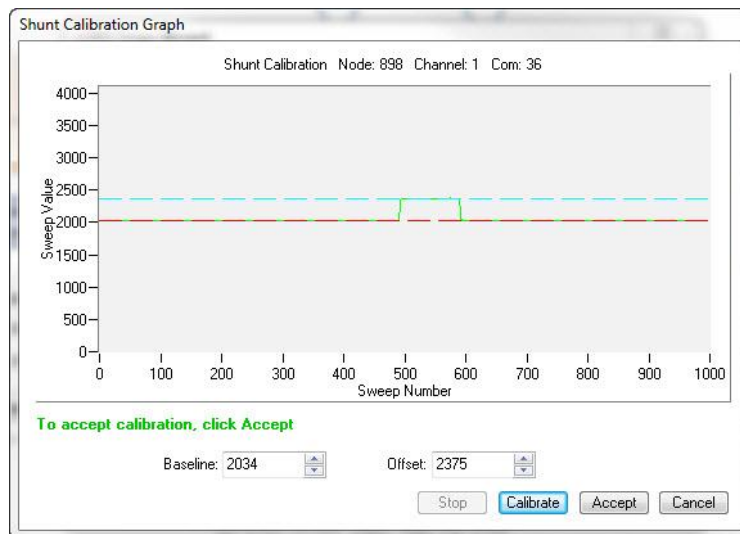

Figure 3: Shunt Calibration Graph
- The resultant graph will appear as exemplified in Figure 3.